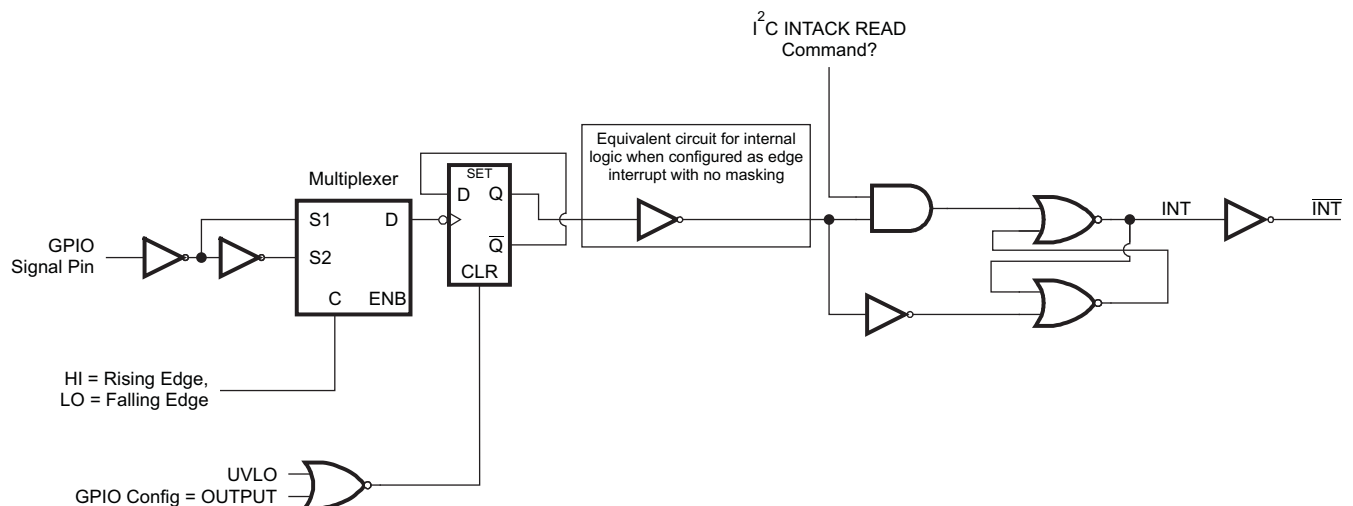

Figure 58. GPIO 1 or GPIO2 Configured as an Interrupt Request Input
See Figure 58 for a description of the logic used for GPIO1 and GPIO2 inputs when configured for edge-triggered interrupt generation. The signal from the GPIO pin input is double-latched before being sent to the interrupt controller logic. The inversion of the Q output from the first flip-flop must be HI to allow the output latch to be cleared when a READ command occurs. On the initial edge of the GPIO signal, the Q output of the flip-flop is set (HI). The \overline{INT} line is asserted (LO) after the initial selected edge from the GPIO pin. On the next falling (or rising) edge of the GPIO pin, the interrupt can again be cleared (which allows the \overline{INT} pin to go back high). The \overline{INT} signal is cleared (set back HI) after an I²C READ operation is performed.